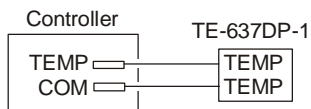

Figure 5: Typical TE-637DP-1 Wiring
2. Connect the wires to the appropriate terminals of the wiring block. (See Figure 5 and refer to the appropriate controller documentation.)